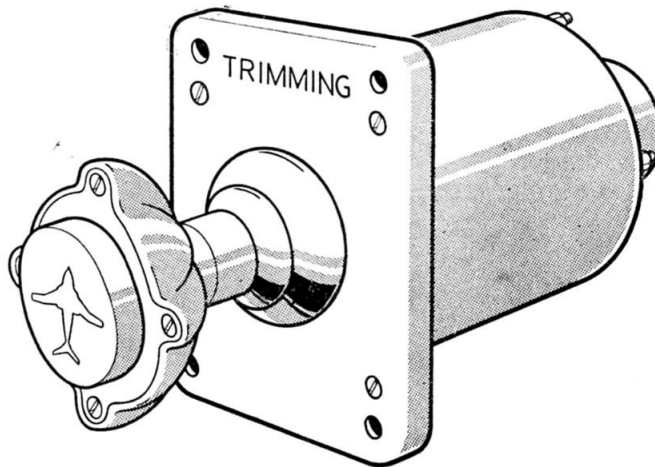

Fig. 1. Trim switch, Western, Type TS 151
1. The trim switch, Type TS 151, Mk. 14A (fig. 1) is used for switching the aileron, elevator and rudder trimming actuators on